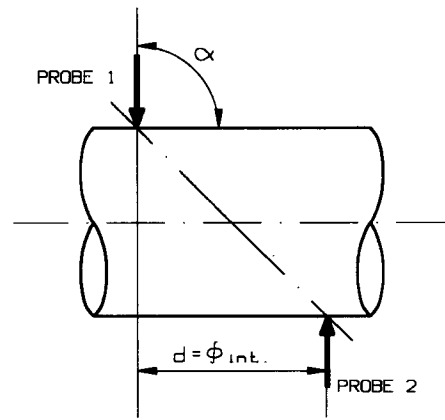

Fig. 2
- Draw the location of the tappings (fig.2)
- Weld the bosses (6).
- Install valve (19) with the seal (18).